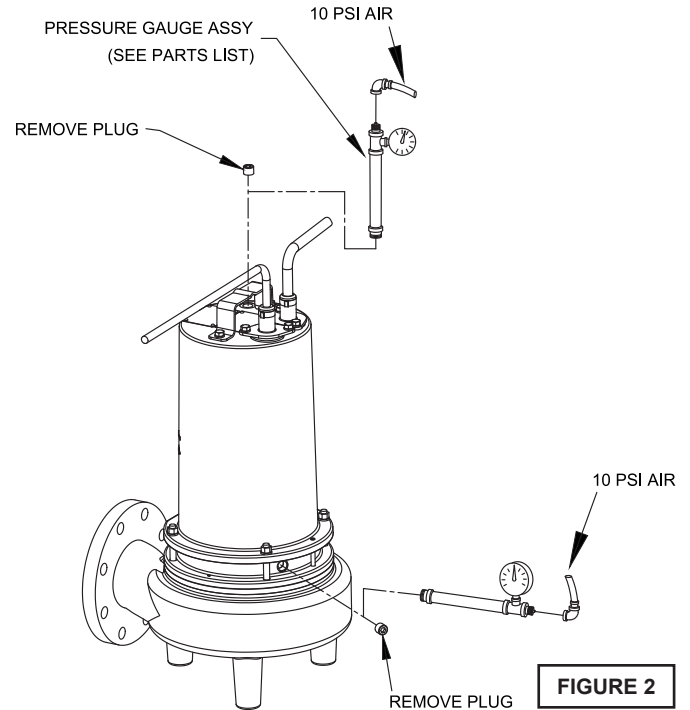

FIGURE 2
Pumps that have had the oil drained from the Motor Housing - Apply pipe sealant to pressure gauge assembly and tighten into pipe plug hole (See Figure 2). Pressurize motor housing to 10 P.S.I. Use soap solution around the sealed areas and inspect joints for "air bubbles". If, after five minutes, the pressure is still holding constant, and no "bubbles" are observed, slowly bleed the pressure and remove the gauge assembly. Replace oil as described in section F-1.4. If the pressure does not hold, then the leak must be located and repaired.
Pumps that have NOT had the oil drained from the Motor Housing - The pressure test may be done with the oil at its normal level. Remove pipe plug (5) from motor housing (2). Apply pipe sealant to pressure gauge assembly and tighten into hole (see Figure 2). Pressurize motor housing to 10 P.S.I. Use soap solution around the sealed areas above the oil level and inspect joints for "air bubbles". For sealed areas below the oil level, leaks will seep oil.
Motor Housing - Set unit upright and refill with new cooling oil as per Table 1 (see parts list for amount). Fill to just above motor as an air space must remain in the top of the motor housing to compensate for oil expansion (see Figure 2, 12 or 14). Apply pipe thread compound to threads of pipe plug (5) then assemble to motor housing (2).